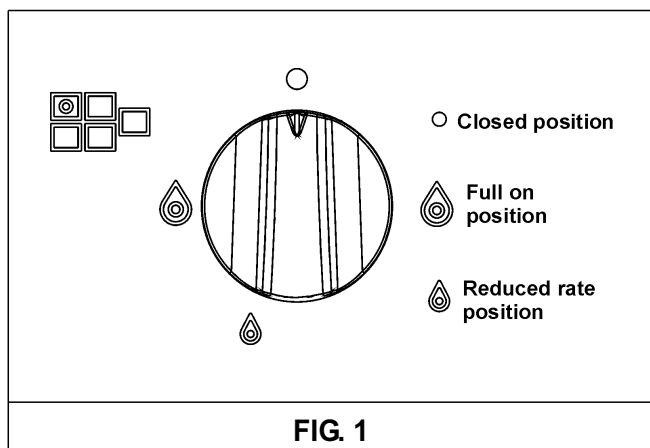

FIG. 1
Push and turn the knob corresponding to the required burner in an anticlockwise direction until it reaches the full on position (large flame fig. 1), then place a lighted match near the burner.
Push and turn the knob corresponding to the required burner in an anticlockwise direction until it reaches the full on position (large flame fig. 1), then depress and release the ignition button.
Push and turn the knob corresponding to the required burner in an anticlockwise direction until it reaches the full on position (large flame fig. 1), then depress the knob.
The knobs of burners equipped with flame failure device must be turned in an anticlockwise direction until they reach the full on position (large flame fig. 1) and come to a stop. Now depress the knob in question and repeat the previously indicated operations.
- When the pan comes to the boil, set the knob to the reduced rate position (small flame fig. 1).